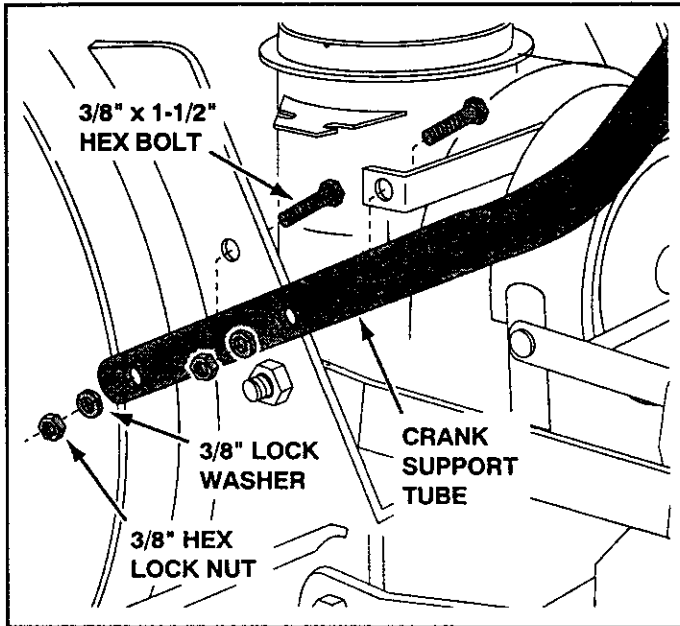

FIGURE 11 LEFT SIDE VIEW
- Assemble the crank support tube (flat side) to the two brackets on the left side of the thrower housing using two 3/8" x 1-1/2" hex bolts, 3/8" lock washers and 3/8" hex lock nuts. See figure 11.